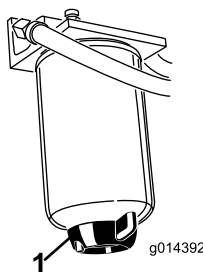

Figure 36
Drain the water or other contaminants from the water separator (Figure 36) daily. Replace the filter canister after every 400 hours of operation.
2. Loosen the drain plug on the bottom of the filter canister (Figure 36).